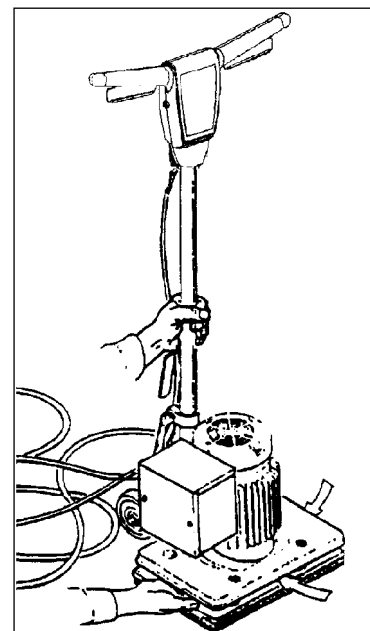

Figure 2
3. Grasp the machine at the lifting sites and place in cargo area. See figure 2.